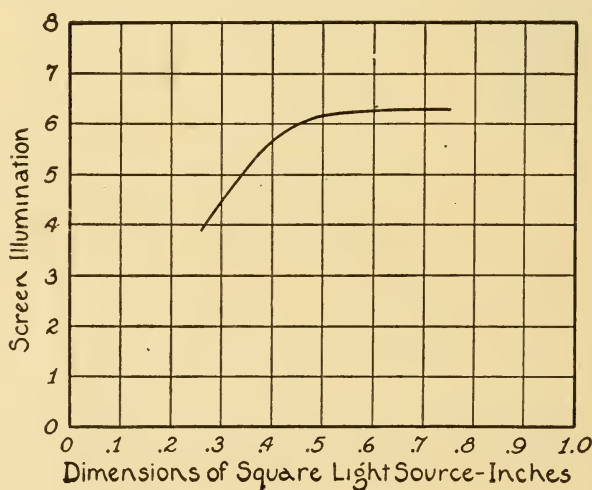

FIGURE 99G
Examination of the curve in Fig. 99G shows that in a typical incandescent lamp optical system the screen illumination increases with the increase in the area of light source up to one-half inch square. (192) More than that merely adds illumination to the cooling plate without raising the screen illumination to any appreciable degree. Therefore the light source area cannot be increased beyond the limits of one-half inch square for the 35 mm projector optical system with any beneficial effect. The newer lamps produce additional screen illumination only because more filament has been included within the usable one-half inch area.